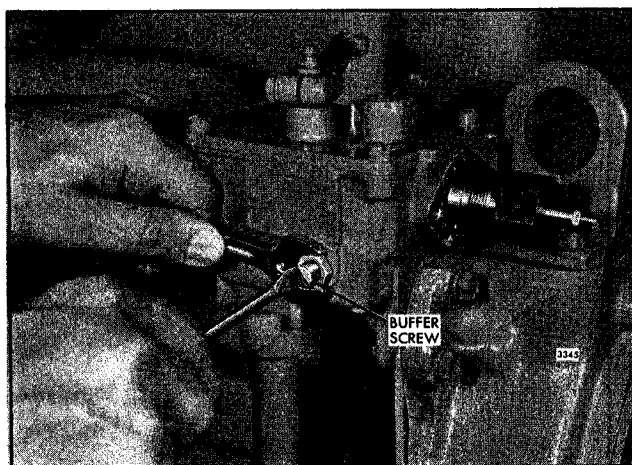

Fig. 6 - Adjusting the Buffer Screw
1. With the engine running at normal operating temperature, turn the buffer screw in (Fig. 6) so that it contacts the differential lever as lightly as possible and still eliminates the engine roll.
3. Start the engine and loosen the idle speed adjusting screw lock nut. Then, adjust the idle screw (Fig. 6) to obtain the desired engine idle speed.